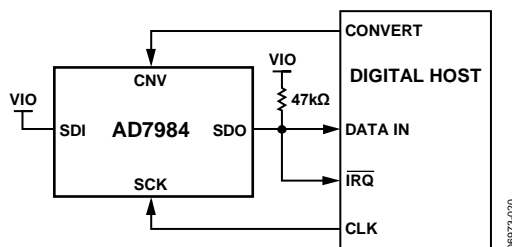
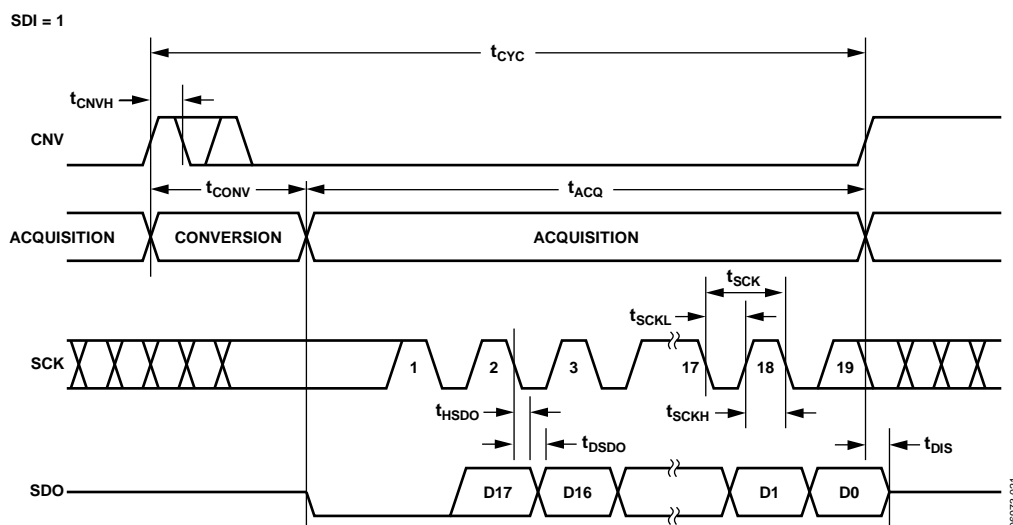
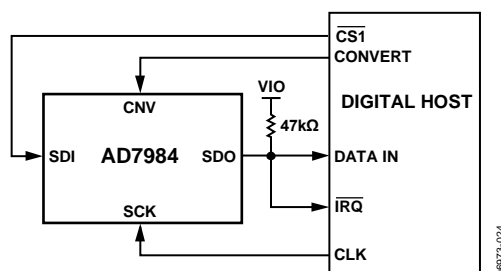
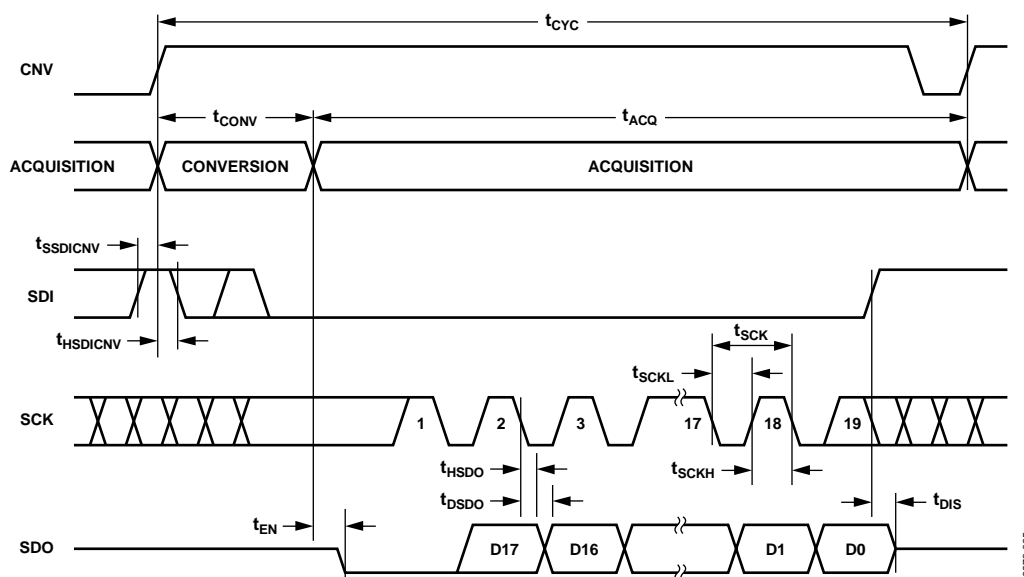

Figure 29.  $\overline{\text{CS}}$  Mode, 3-Wire with Busy Indicator Connection Diagram (SDI High)
Figure 30.  $\overline{\text{CS}}$  Mode, 3-Wire with Busy Indicator Serial Interface Timing (SDI High)
Figure 33.  $\overline{\text{CS}}$  Mode, 4-Wire with Busy Indicator Connection Diagram
Figure 34.  $\overline{\text{CS}}$  Mode, 4-Wire with Busy Indicator Serial Interface Timing
- In  $\overline{\text{CS}}$  mode if CNV or SDI is low when the ADC conversion ends (see Figure 30 and Figure 34).
The connection diagram is shown in Figure 29, and the corresponding timing is given in Figure 30.
The connection diagram is shown in Figure 33, and the corresponding timing is given in Figure 34.